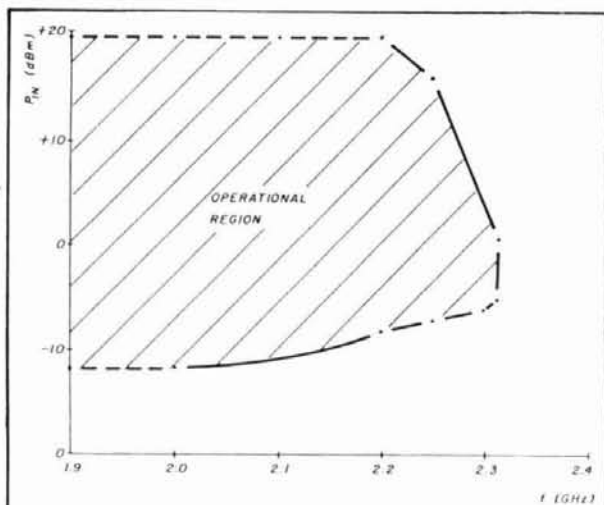

fig. 7. Performance of the U822 with MSA03. Dashed lines indicate limitations of the rf signal generator.
**Figure 7** shows the performance of the prescaler with its preamplifier in place. The improved dynamic range is markedly different from the operating window seen in **fig. 2**. With its preamplifier, the prescaler now has a much better input signal range, both above and below